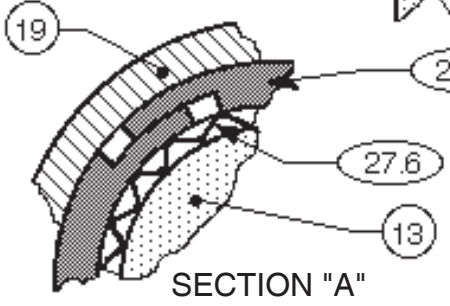
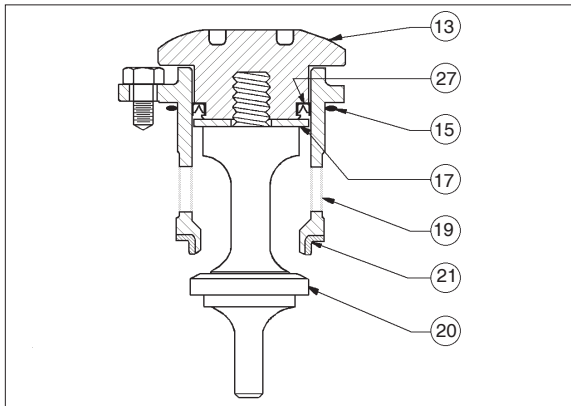
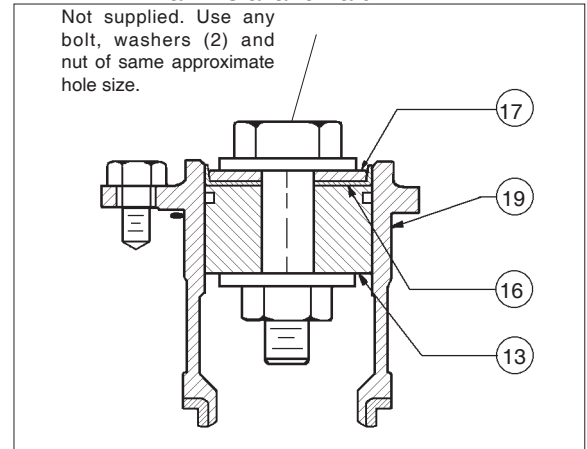

Figure 1: Dynamic Side Seals
Figure 3: Assembled ITA,
Figure 4: Temporary Assembly Parts
A detailed view of the dynamic side seal parts is shown in Figure 1 on the next page.
- e. Remove wiper seal (16), if supplied, from within cage (19).
- f. Remove wiper washer (17.1) or camber adjusting washer (17.2), if supplied, from within cage (19).
- g. Remove o-ring lower stem seal (14.3) from plug (20).
- h. Remove seat ring (21); examine for signs of leakage. If seat ring (21) shows signs of significant leakage, determine if operating conditions of pressure, pressure drop, or temperature are exceeding limits.
2. Units with Metal Diaphragm(s) (See Fig 3):
- a. To disassemble the ITA, hold the lower part of the valve plug (20) in a bench vise; do not hold on the machined surface in the plug's (20) spindle area. (The spindle "slides" in the pressed-in-place lower guide bushing (24) and can not be allowed to be marred.)
- b. Using a special double-posted spanner wrench fitting (to order see NOTE in Section X, Parts Ordering Information), turn the piston-guide bearing (13) CCW to loosen; piston-guide bearing (13) can be removed by hand after loosening.
- c. Pull the valve plug (20) downwards out of the piston-guide bearing (13) and out thru the bottom of the cage (19).
- d. Remove the piston-guide bearing (13) from the upper end of cage (19).
1. When replacing the optional wiper seal (16), the replacement wiper seal (16) is “pre-formed”. It may, however, require reforming. Under normal circumstances, this step may not be required. If needed, reform the wiper seal (16) by pressing the temporary assembly parts into the cage (19) backwards as shown in Figure 4. The wiper seal (16) is best left in this position overnight (minimum of two (2) hours) prior to reassembly.
2. After forming the wiper seal, remove parts (13, 16, 17) from cage (19) and disassemble the temporary assembly of Step 1. above.
3. Installation of dynamic side seal (27) (See Figure 1):
1. Stretch u-cup seal (27.3) over lower circumference of piston-guide bearing (13), taking care not to "cut" u-cup seal (27.3) on the protruding shelf that is part of the piston-guide bearing's (13) groove. Ensure that the u-cup seal (27.3) is oriented with the center-open-downwards as shown in Figure 1, as the u-cup seal (27.3) depends upon the P1-Inlet Pressure to pressure activate the seal for proper sealing action.
2. Position piston-guide bearing (13) over and into upper end of cage (19) until the cap seal (27.1) edge touches the upper lip of the cage (19). While gently applying force to press the piston-guide bearing (13) into the cage (19), simultaneously use fingers to lightly press the u-cup seal (27.3) inwards into the groove of the piston-guide bearing (13) until the u-cup seal (27.3) "slips into" the cage (19). DO NOT USE TOOLS, LUBRICANT, OR HEAVY FORCE TO ENGAGE THE U-CUP SEAL (27.3) INTO THE CAGE (19).
4. Place properly oriented seat ring (21) onto its shoulder at the lower end of cage (19).
- a. Place new o-ring lower stem seal (14.3) into groove of valve plug (20).
- b. Insert valve plug (20) upwards through lower end of cage (19) and through the center hole in piston-guide bearing (13), also capturing the camber adjusting washer (17.2) or wiper washer (17.1) and wiper seal (16), if supplied. Hold plug (20) and cage (19) together.
- c. Place an oversized nut or stack of washers, the same approximate height of the upper diaphragm pressure plate (8) and the lower diaphragm pusher plate (10), over the upper end of valve plug (20) and temporarily secure with diaphragm lock nut (7), manually tightened. Do **NOT** allow valve plug (20) to rotate against seat ring (21) during tightening.
- a. Insert valve plug (20) upwards through lower end of cage (19) and through the center hole of camber adjusting washer (17.2) or wiper washer (17.1) and wiper seal (16).
- b. Engage valve plug (20) with piston-guide bearing (13) threads and tighten manually as far as possible.
- c. Place ITA into a vise with leaded jaws and grasp at a hub location on the valve plug (20) that is not in the "spindle" zone. (See Figure 3.)
- d. Using a special double-posted spanner wrench fitting (to order see NOTE in Section X, Parts Ordering Information), tighten piston-guide bearing (13) to the valve plug (20) with the following torque values. Do **NOT** allow valve plug (20) to rotate against seat ring (21) during tightening.
1. Place body (23) in a vise.
2. Reinstall internal sensing drilled plug (32) with compatible thread sealant.
3. Insert the lower piston spring (22) into the body (23), if supplied.
4. Fit the o-ring cage seal (15) into its body (23) groove.
5. With the ITA held manually in the closed position, insert ITA into body (23).
6. Properly align all three cage bolt (18) holes as there is only one circumferential location possible for this alignment. If a lower piston spring (22) is used, apply downward force to the top of the cage (19) until the ITA is lowered sufficiently to engage the cage bolts (18) into the body (23). Engage all of the cage bolts (18), then evenly screw in the cage bolts in one-half revolution increments to pull down the ITA evenly, taking care NOT TO “ANGLE” the ITA in the BODY. Torque the cage bolts (18) to 13-15 ft-lbs (17.6-20.3 N-m).